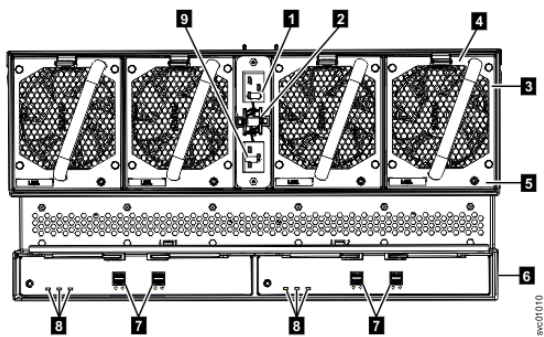
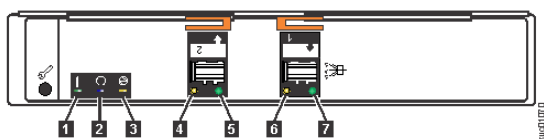

Figure 181. LEDs on the back of the expansion enclosure
Figure 182. LEDs on the back of the expansion canister
Table 69 on page 224 explains the function and status that is indicated by each of the LEDs. The power cords for each PSU are accessible from the rear of the expansion enclosure (1), as shown in Figure 181 on page 226.
Figure 181 on page 226 shows the rear view of a expansion enclosure. LEDs on the rear of the enclosure provide information about each fan module, each expansion canister, and SAS links.
The expansion enclosure has four fans. Each fan has one LED; for example, Figure 181 on page 226 shows the location of the LED (5) for fan number four. When a fan is operating normally, the LED is not lit. If a fault is detected, the amber LED is lit.
As Figure 181 on page 226 also shows, the expansion enclosure contains two expansion canisters. Each expansion canister contains its own set of LEDs, as shown in Figure 182 on page 226. The LEDs provide status information about the expansion canister itself and the SAS connections.